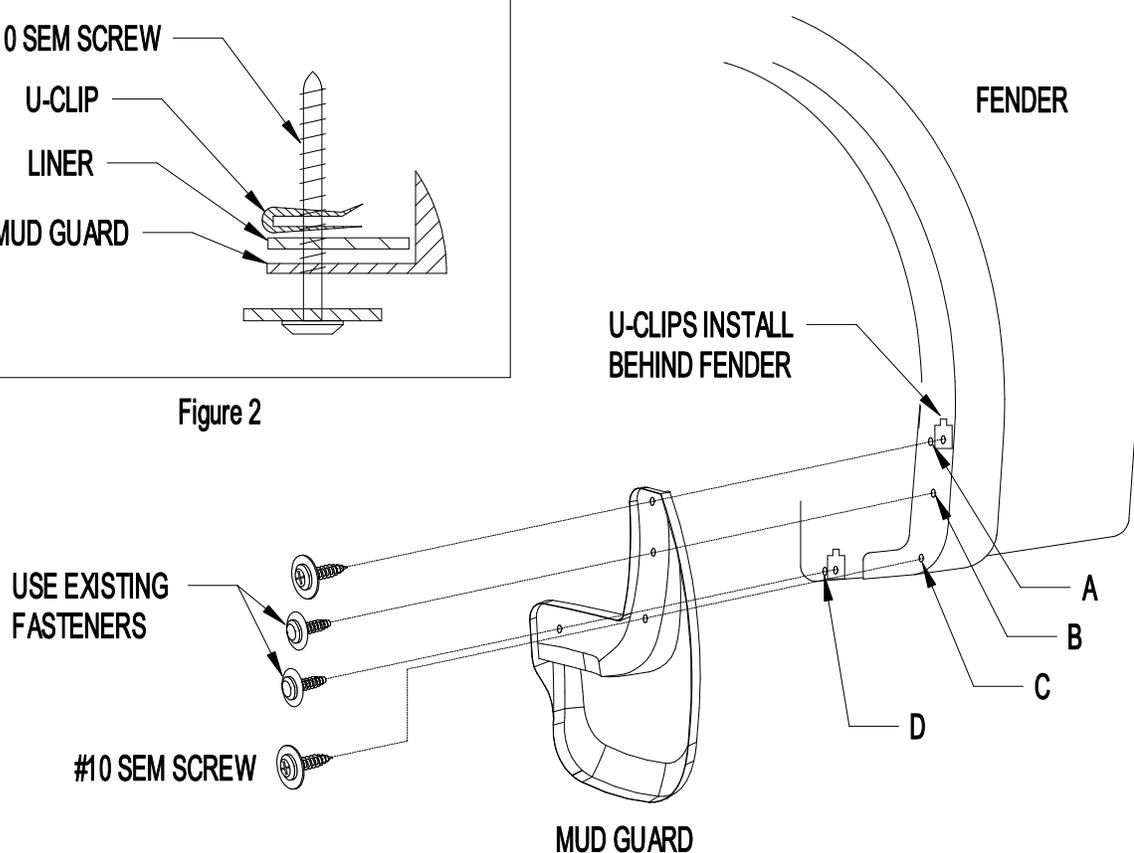

Figure 1
2. Remove existing fasteners from locations B and C (Figure 1).